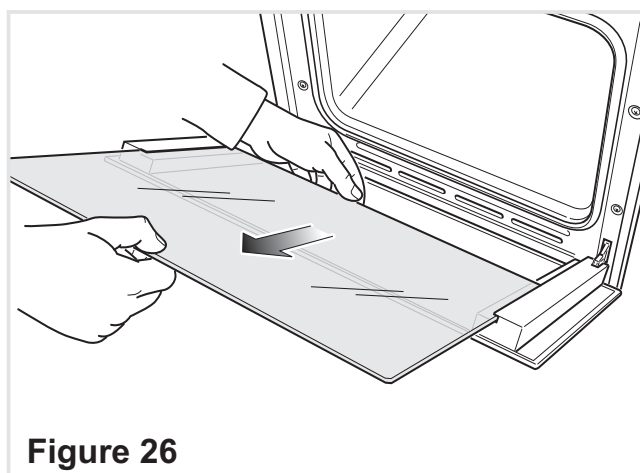

Figure 26
- Gently pull out the inner pane of glass (Fig. 26).